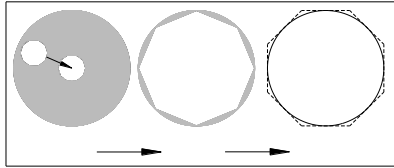

Fig. 33
- (4) Open the field diaphragm gradually. If the image of field diaphragm is just inscribed to the view field, it means the field diaphragm had been centered correctly. (See Fig. 33)
- (5) In actual use, enlarge the field diaphragm a little, to make its image circumscribed to the field of view.